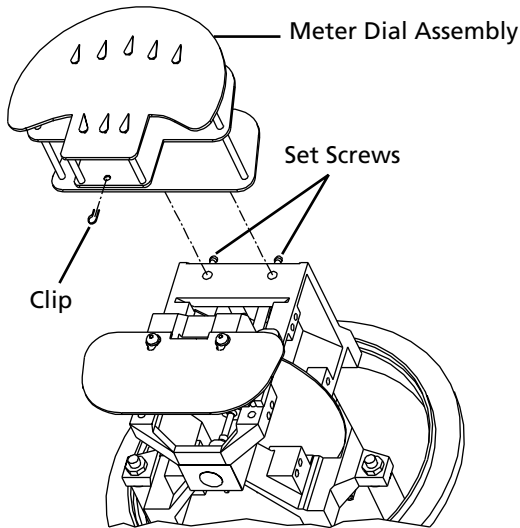

Figure 2. Removing Meter Dial Assembly
| Figure 2. Removing Meter Dial Assembly | 4 |
2. Remove the meter dial assembly. See Figure 2.